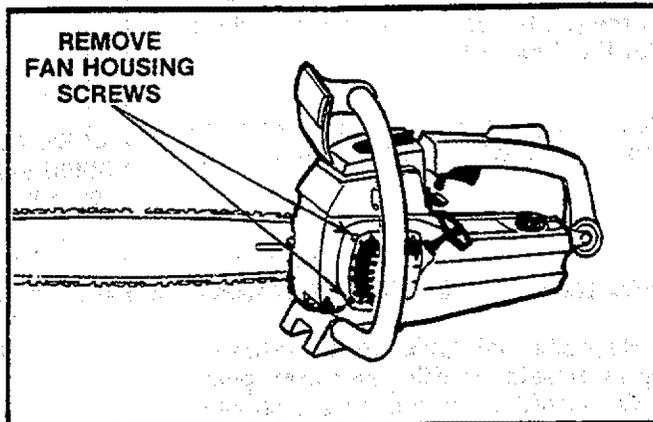

Figure 46
2. Remove the fan housing screw on the bottom of the saw and the two screws on the side of the fan housing. Figure 46.